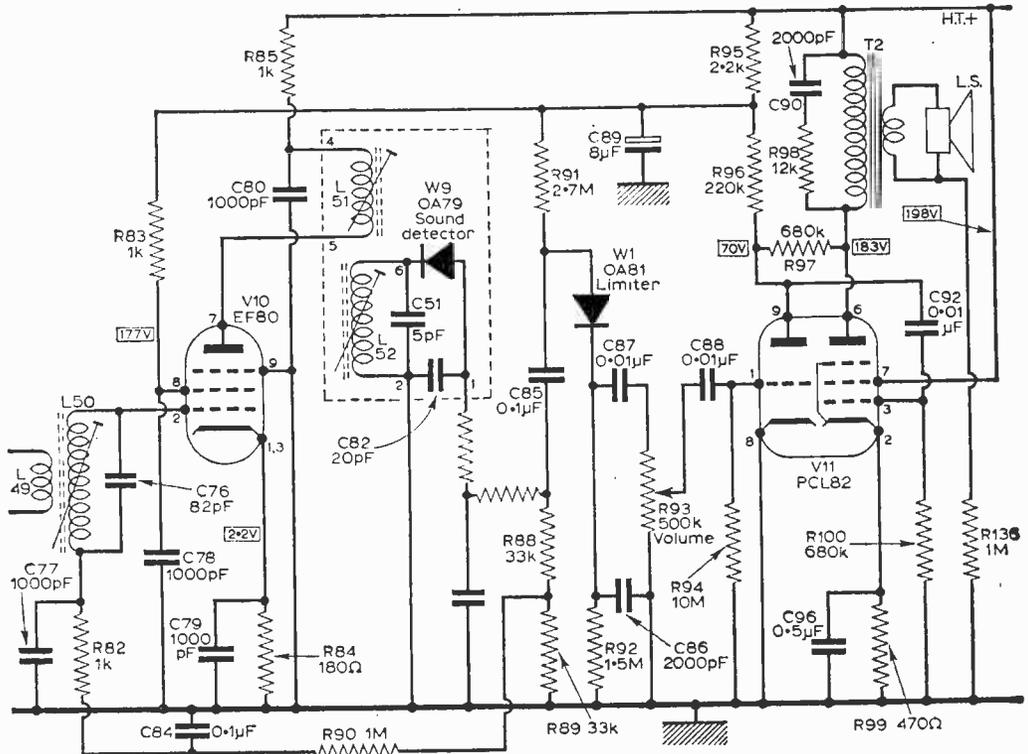

Fig. 7—Sound i.f., detector and a.f. stages.
**T**O start this month's article we will consider the intercarrier sound channel. In Fig. 7 (last month) a 6Mc/s signal is produced at the vision detector by the sound and vision carriers intermodulating as the result of the circuit non-linearity. The 6Mc/s signal is the difference between the sound and vision frequencies, and this signal takes on the frequency-modulation of the original sound signal. Thus, the exercise is to feed the 6Mc/s signal away, through an amplifier, to an f.m. detector.
In Fig. 7 we have transformer T4 across whose primary is developed the 6Mc/s intercarrier sound signal. The secondary is arranged as a "link" winding to feed a similar winding on the inter-channel sound amplifier input.
The sound input transformer T5 is wound on an Aladdin former Type PPF16411/6 and uses core Type PP5985/16002 for tuning. The secondary winding (that connected to the control grid circuit of V9) comprises 20 turns close wound 24s.w.g. enamelled-covered wire. The primary "link" winding is just a single turn of the same kind of wire wound on a thin card former directly over the centre of the secondary winding. Note that the "link" winding on L4 (Fig. 7 last month) connected to the "link" winding on T5 via screened cable. A thin coaxial cable is suitable.